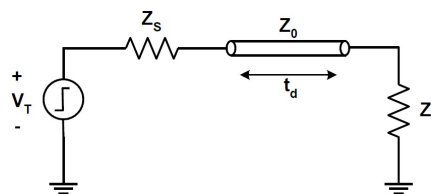

Figure 11 A voltage source driving a terminated transmission line.
1. Consider the circuit shown in Figure 11. A voltage source with a $Z_s = 200 \Omega$ output impedance drives a transmission line with a characteristic impedance of $Z_0 = 50 \Omega$ terminated in a load impedance of $Z_L = 12.5 \Omega$. The transmission line has a propagation delay of $t_d = 2 \text{ ns}$. For a unit step on the voltage source, how long does it take before the reflected wave on the line has an amplitude less than 10 mV ?